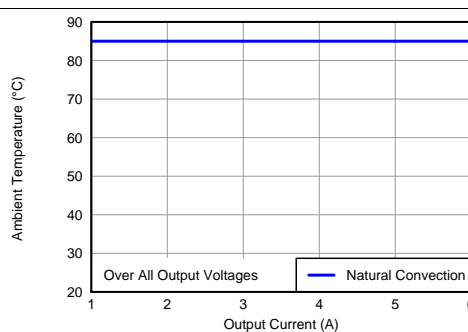

Figure 4. Safe Operating Area
- (2) The temperature derating curves represent the conditions at which internal components are at or below the manufacturer's maximum operating temperatures. Derating limits apply to devices soldered directly to a 100 mm \times 100 mm double-sided PCB with 1 oz. copper. Applies to Figure 4.